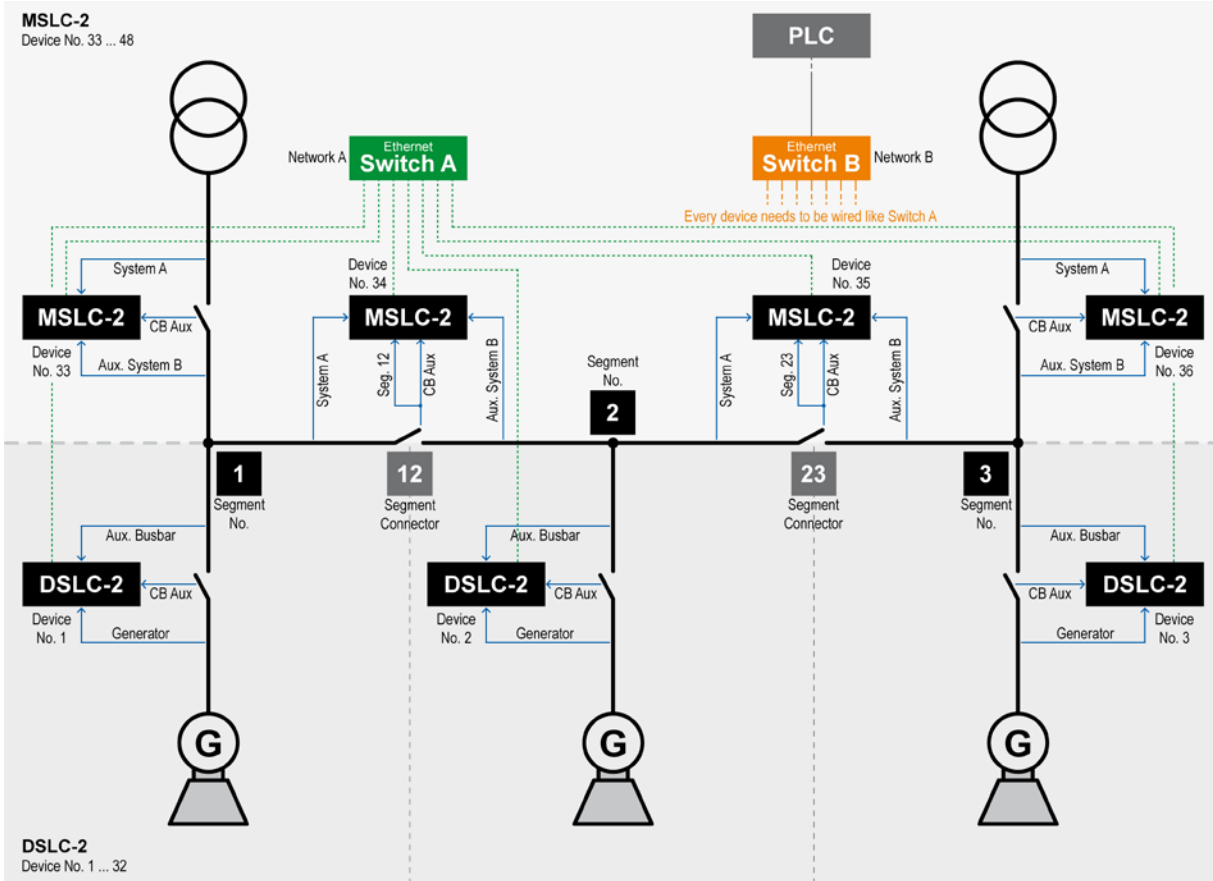

Figure 3-44: Example of an online diagram with according network
6. Draw the switch and its network for Ethernet channel A and B, if used, in your online diagram (refer to Figure 3-44).